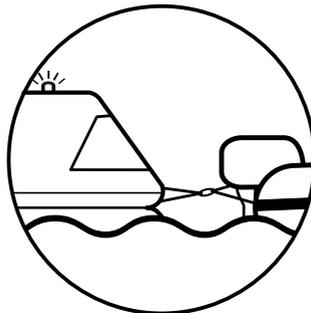

Fig 16 - Towing the raft
7.4.1 Where possible this should be avoided. The liferaft has been tested up to a speed of 3 knots and this speed should never be exceeded. If towing is required then use the towing points on the liferaft (Fig 16).